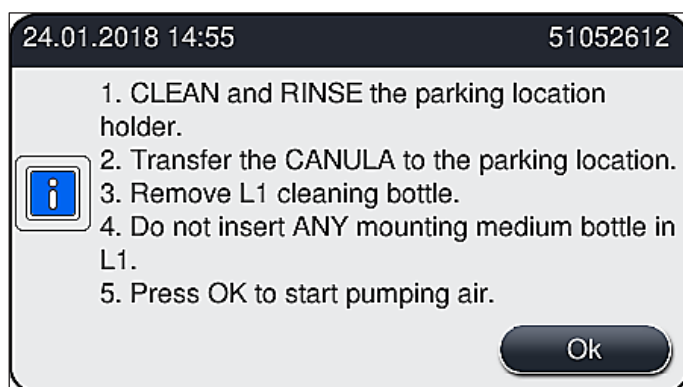

Fig. 106
4. Take note of the next information message (→ Fig. 106), which contains instructions, and acknowledge with the **Ok** button.